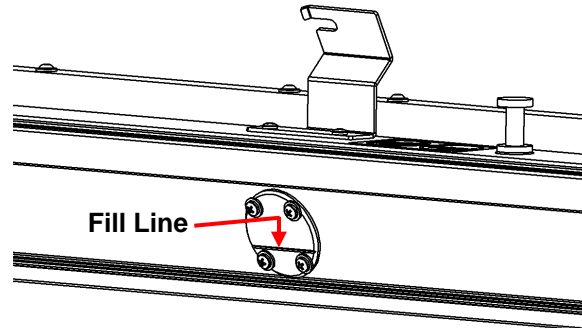

Figure 3-16
4. SLOWLY pour Reactor oil (or equivalent) into the tank until the oil level in the oil level indicator, as shown in Figure 3-16, is at the mark. DO NOT OVERFILL!